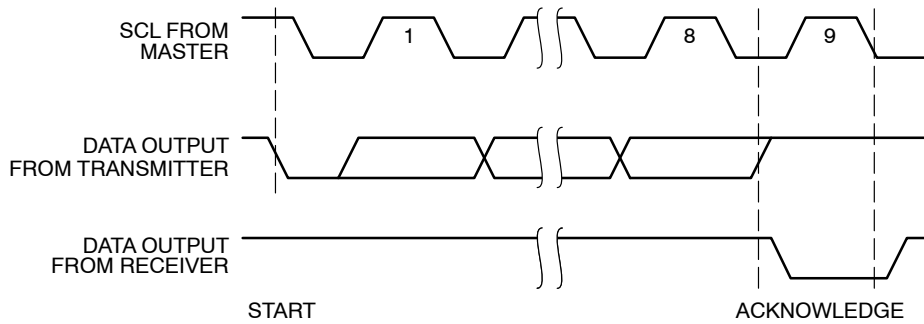
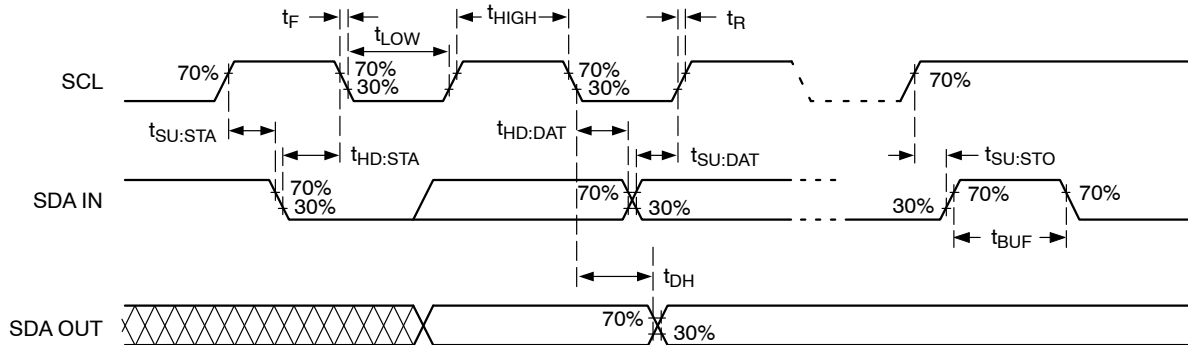

Figure 4. Acknowledge Timing
Figure 5. Bus Timing
- Timing reference points are set at 30%, respectively 70% of  $V_{CC}$ , as illustrated in Figure 5. Bus loading must be such as to allow meeting the  $V_{IL}$  and  $V_{OL}$  as well as all other timing requirements. The minimum clock frequency of 10 kHz is an SMBus recommendation; the minimum operating clock frequency is limited only by the SMBus time-out. The device also meets the Fast and Standard I2C specifications, except that  $T_i$  and  $t_{DH}$  are shorter.
A matching Slave address is acknowledged (ACK) by the Slave by pulling down the SDA line during the 9th clock cycle (Figure 4). After that, the Slave will acknowledge all data bytes sent to the bus by the Master. When the Slave is the transmitter, the Master will in turn acknowledge data bytes in the 9th clock cycle. The Slave will stop transmitting after the Master does not respond with acknowledge (NoACK) and then issues a STOP. Bus timing is illustrated in Figure 5.